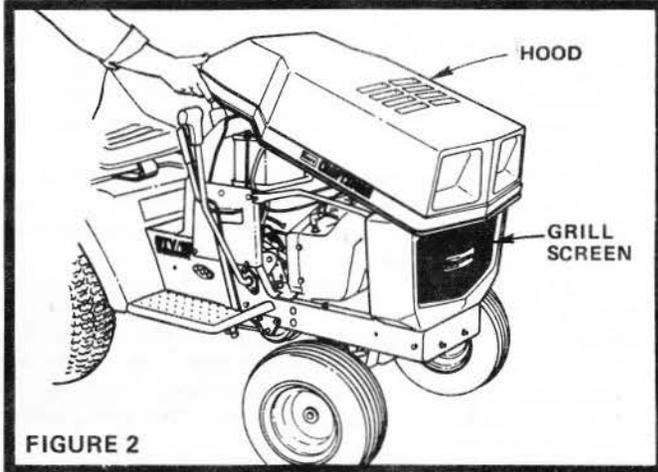

FIGURE 2
- a. Lift Hood from rear sides (Fig. 2).